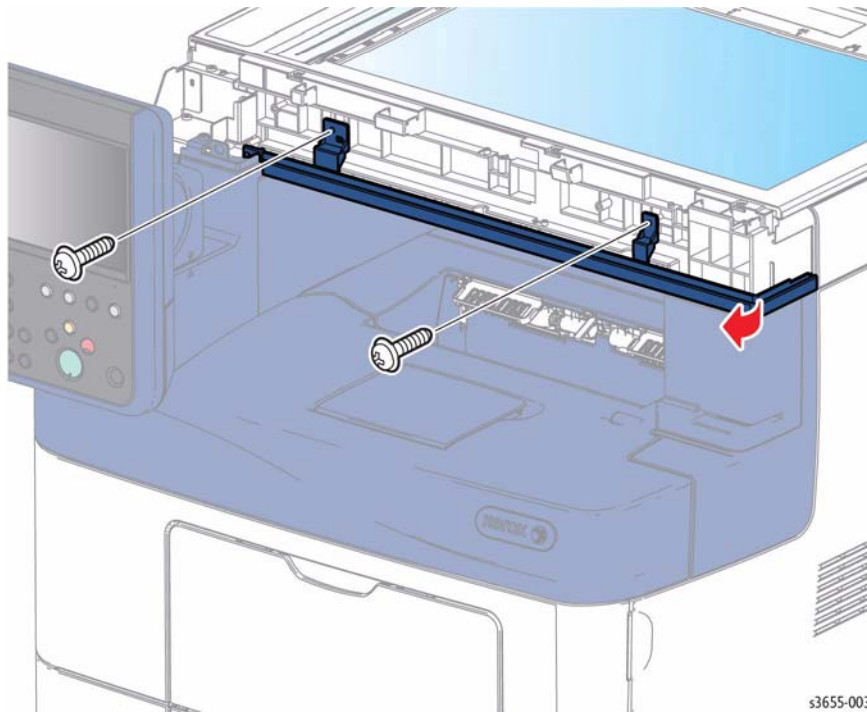

Figure 1 Remove the IIT Front Bottom Cover
7. Refer to Figure 1 to locate and remove 2 screws (silver, M3, 6mm), then pull forward at the right end to remove.